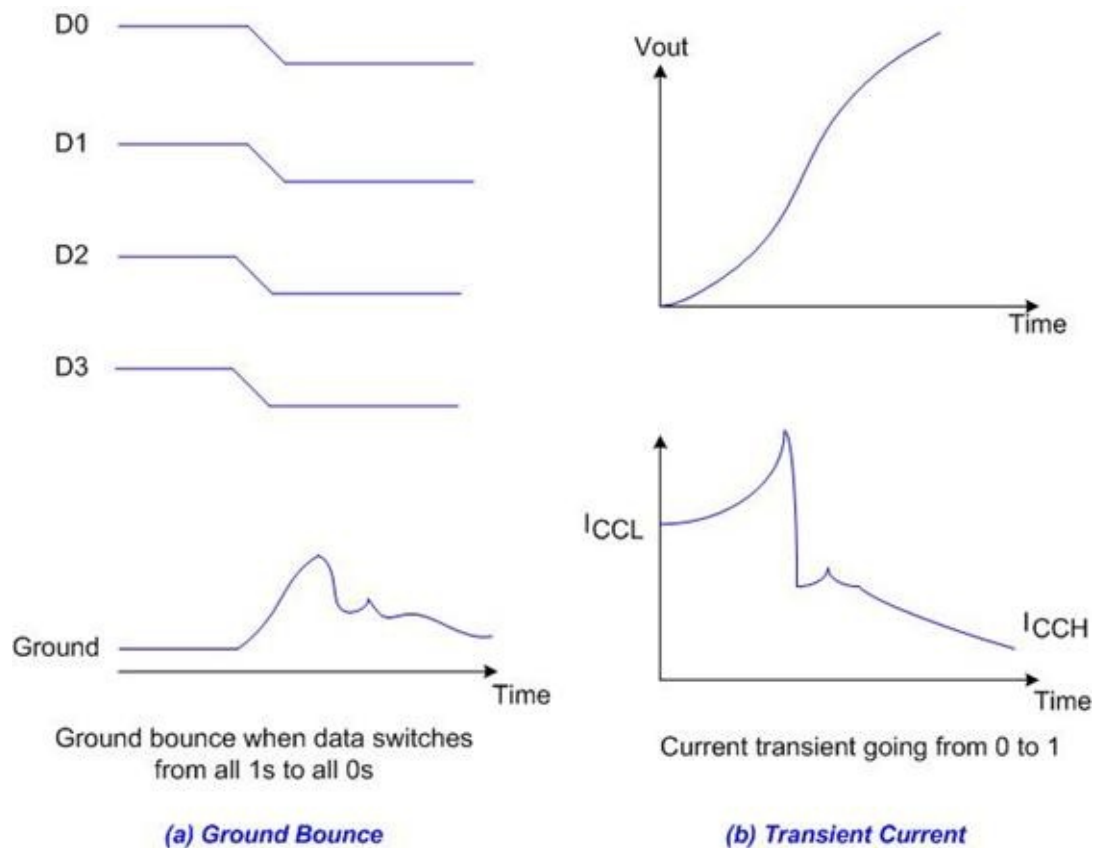

Figure A-10: (a) Ground Bounce (b) Transient Current
2. Use logics with a minimum number of outputs. For example, a 4-output is preferable to an 8-output. This explains why many designers of high-performance systems avoid using memory chips or the drivers and buffers of 16- or 32-bit-wide outputs since all the outputs switching at the same time will cause a massive flow of current in the ground pin, and hence cause ground bounce (see Figure A-10).
and saturated, whereas Q3 is off. By changing the output from the low to high state, Q3 becomes on and Q4 becomes off. It is faster to turn a transistor on than turn a transistor off. This means that there is a time that both transistors are on and drawing currents from the V_{CC} . The amount of current depends on the R_{ON} values of the two transistors, and that, in turn, depends on the internal parameters of the transistors. However, the net effect of this is a large amount of current in the form of a spike for the output current, as shown in Figure A-10.